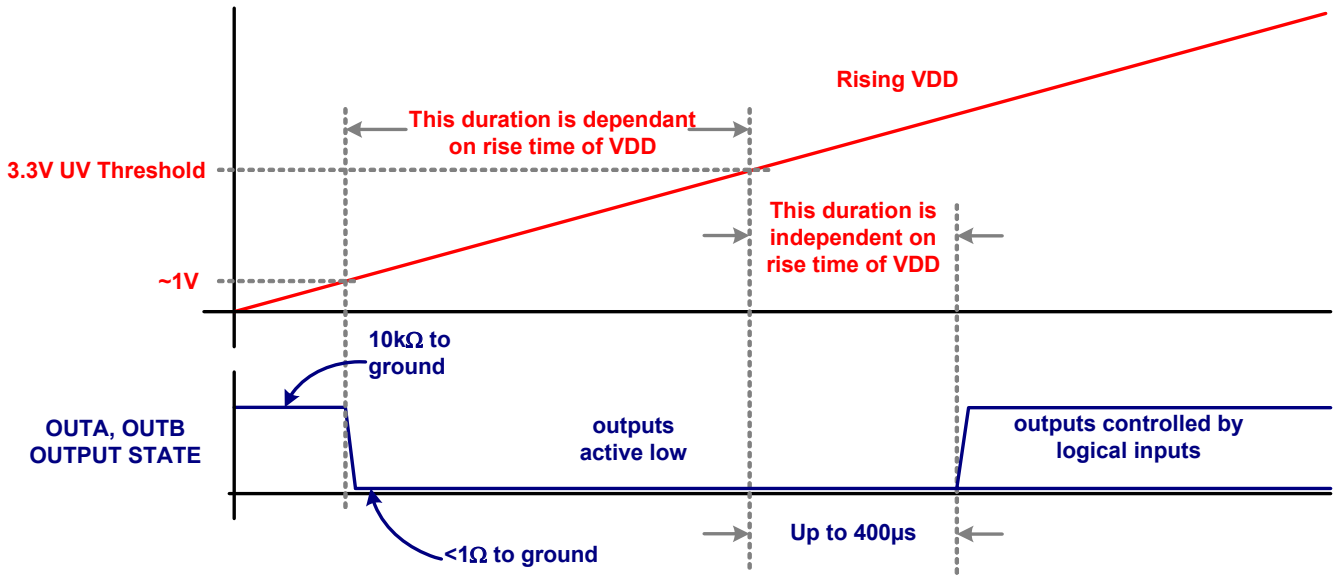

FIGURE 9. START-UP SEQUENCE
11. A 400 $\mu s$  delay further inhibits the release of the output state when the UV positive going threshold is crossed. See Figure 9.
The start-up sequence for is designed to prevent unexpected glitches when  $V_{DD}$  is being turned on or turned off. When  $V_{DD} < \sim 1V$ , an internal 10kΩ resistor connected between the output and ground, help to keep the gate voltage close to ground. When  $\sim 1V < V_{DD} < UV$ , both outputs are driven low while ignoring the logic inputs. This low state has the same current sinking capacity as during normal operation. This insures that the driven FETs are held off even if there is a switching voltage on the drains that can inject charge into the gates via the Miller capacitance. When  $V_{DD} > UVLO$ , and after a 400μs delay, the outputs now respond to the logic inputs. See Figure 9 for complete details.